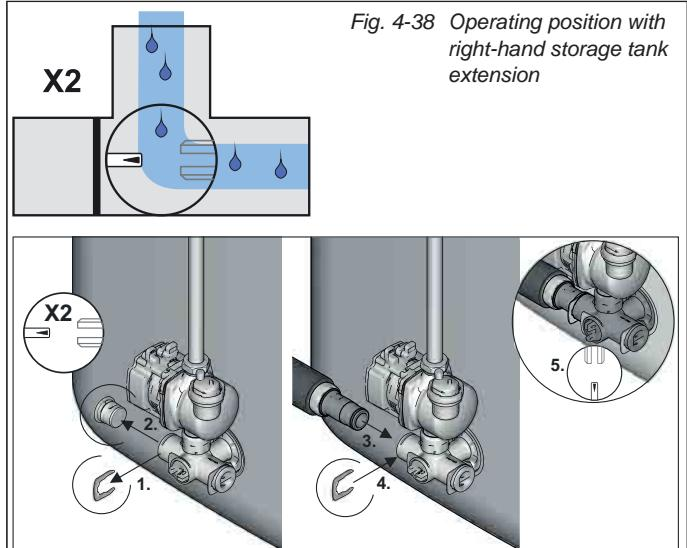

Fig. 4-38 Operating position with right-hand storage tank extension
- X2: storage tank extension on the right-hand side, fig. 4-38.